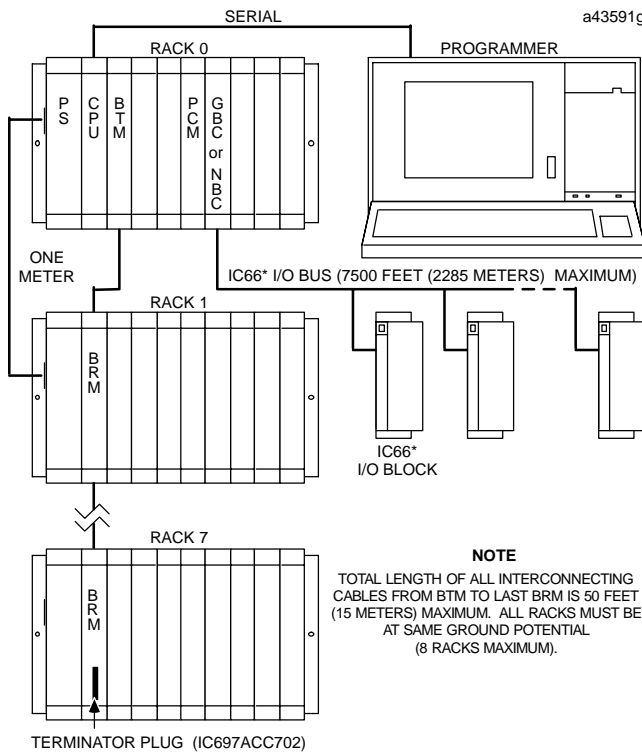

Figure 2. System Configuration, Serial Connection to Programmer
- Install in slot 1 of rack 0. (See Figure 2)
The 15-pin D-connector provides the connection to an RS-485 compatible serial port as shown in Figure 2.